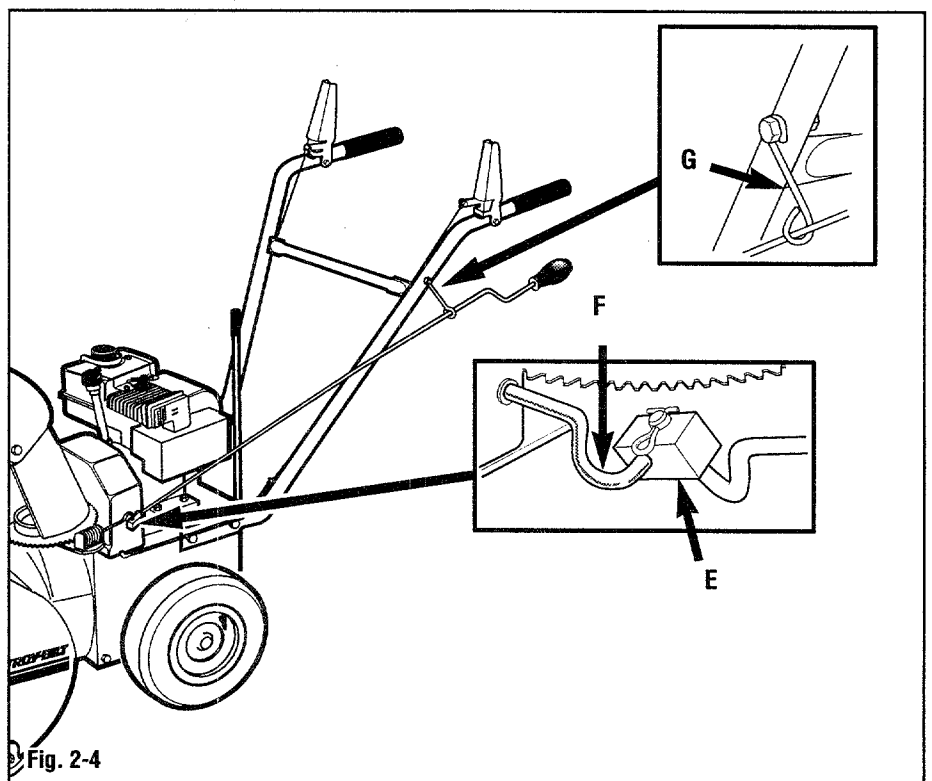

Fig. 2-4
1. Position the hole in the swivel block (E, Fig. 2-4) over the hooked end of the chute control connecting rod (F). Secure the swivel block to the connecting rod with a cotter pin. Bend the ends of the cotter pin over to secure it in place.
2. Position the support bracket (G, Fig. 2-4) against the handlebar as shown. Using two 7/16" wrenches, secure the support bracket (G) to the handlebar with one 1/4-20 x 1-1/2 cap bolt, one 1/4 flat washer and one 1/4"-20 locknut.